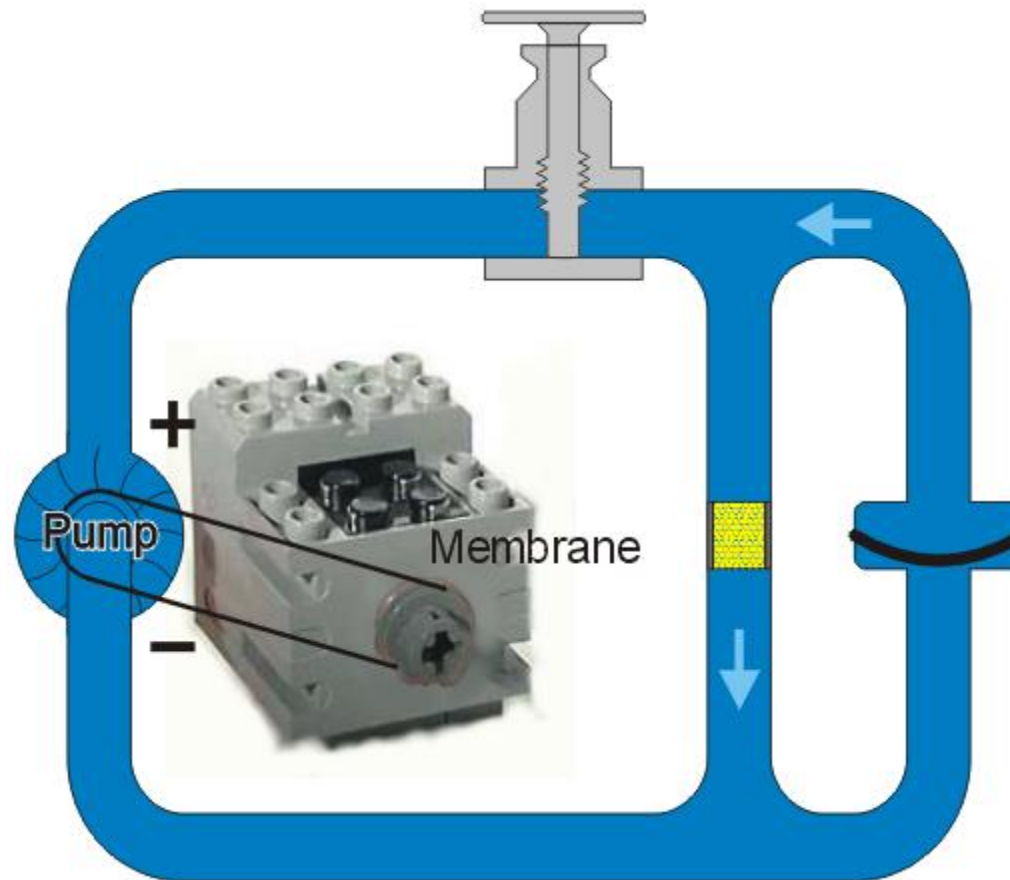

Fig 9: Closing the valve with a sand filter in parallel with the membrane.
- When the valve is closed, the force on the membrane is now removed and it now pushes back with the same force as the pump originally pushed, as is shown in **Fig.9**.